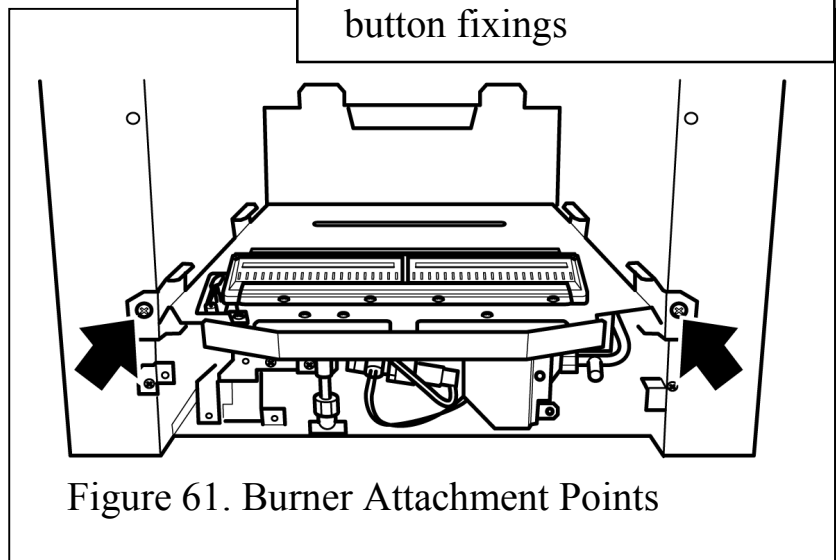

Figure 61. Burner Attachment Points
4. Detach the burner unit from the convection box by removing two screws – See figure 61.